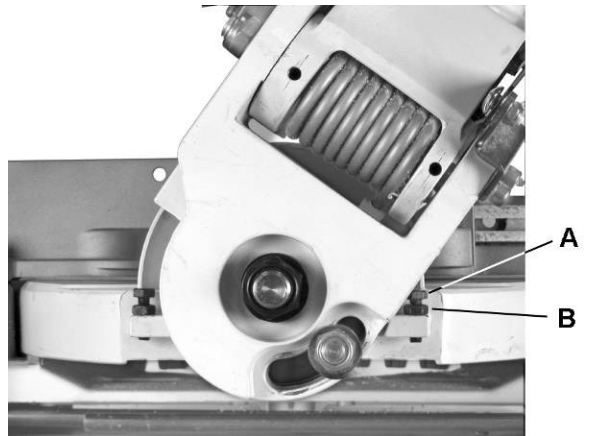

Figure 9
4. To adjust, tilt the cutting arm to zero degrees, loosen the *lock nut* (B, Fig. 9) and turn the *stop bolt* (A, Fig. 9) in or out accordingly.
6. Repeat steps 1–4 if necessary until the blade is 45° to the table, then tighten the *lock nut* (B, Fig. 9) to secure the *stop bolt* (A, Fig. 9).